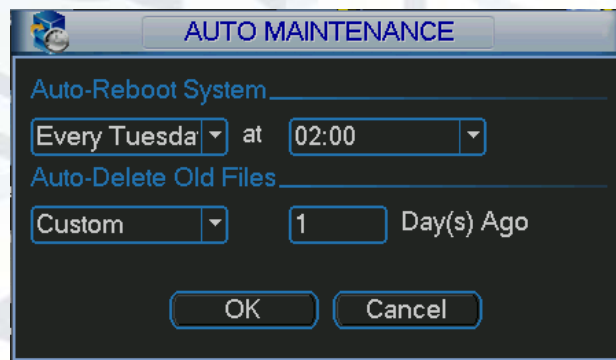

Figure 4-92
- Here you can set auto-reboot time and auto-delete old files setup. You can set to delete the files for the specified days. See Figure 4-92.